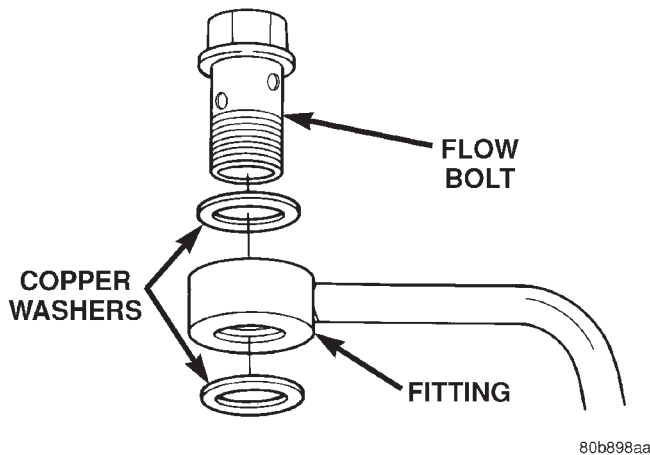

Fig. 23 Pressure Fitting And Washers
(7) Install a copper washer on each side of the power steering pressure hose banjo fitting, then install the flow bolt through the center (Fig. 23).